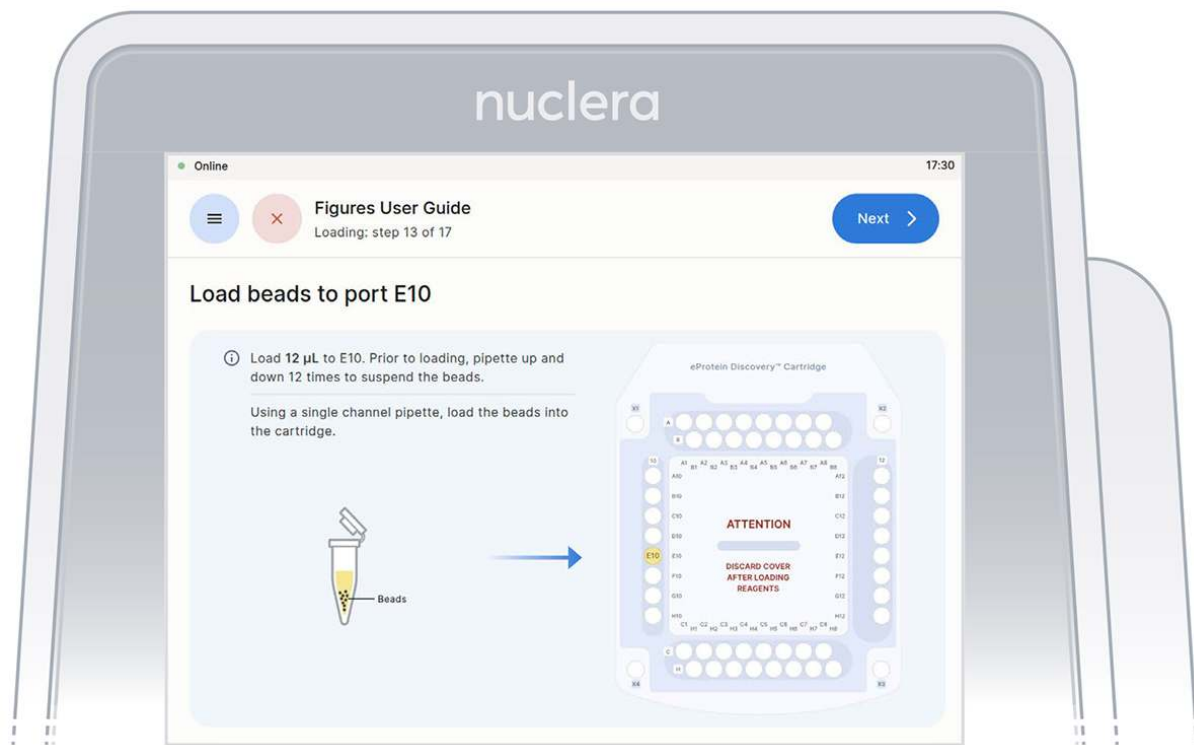

Figure 22: Loading of the Strep beads to port E10 of the cartridge
4. Strep Purification Beads - port E10: ▶ Using a single channel p20 pipette, mix the Strep Purification Beads twelve times by gently pipetting up and down. Be careful not to introduce air bubbles. Aspirate 12 μ L of the Strep Purification Beads prepared in a tube and dispense into port E10 of the cartridge (Figure 22).